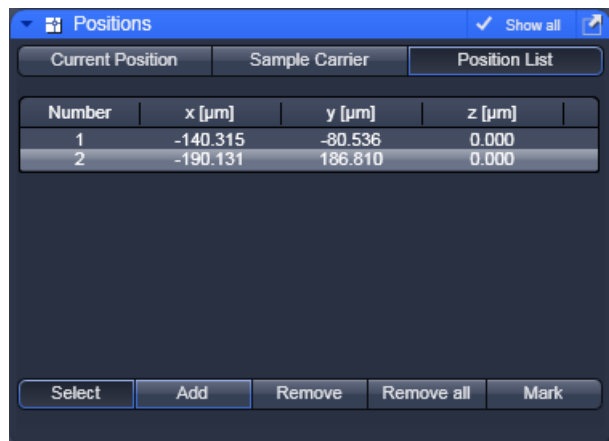
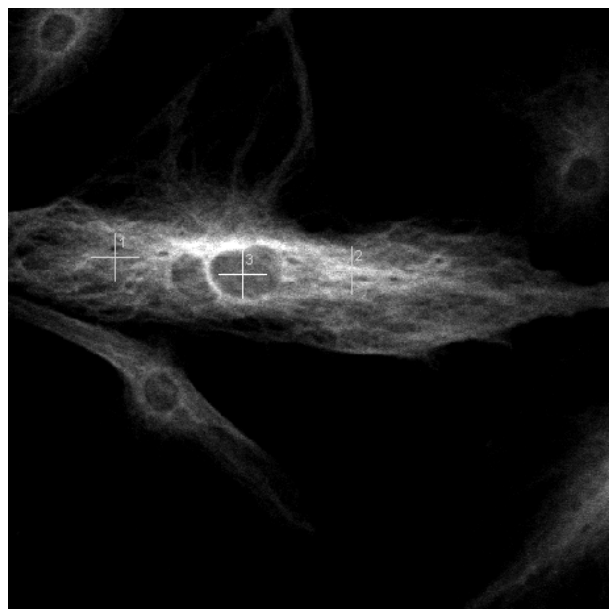

Fig. 324 Position list with 3 positions selected
Fig. 325 LSM scan image with 3 selected positions
- Move the cursor to the desired position in the scan image (drag and drop). Press the **Add** button to add the position marked with the crossline to the **Positions** list (Fig. 324). A crossline is set at the selected cursor position in the image (Fig. 325). To select further positions click at the appropriate position in the image and then press **Add**. If more than one position is selected the crosslines are getting current numbers. The Position list displays the numbers and coordinates of the positions in the **Number**, **x (µm)**, **y (µm)** and **z (µm)** display boxes.
- Press the **Mark** button to fix the crosslines as overlay elements in the scan image (Fig. 325). The crosslines will also stay visible in the scan image if the **Select** button is deactivated. If you call up an image later you have to activate the overlay function and a line drawing element to display the crosslines.
(4) Hysteresis correction of Scanning mirrors